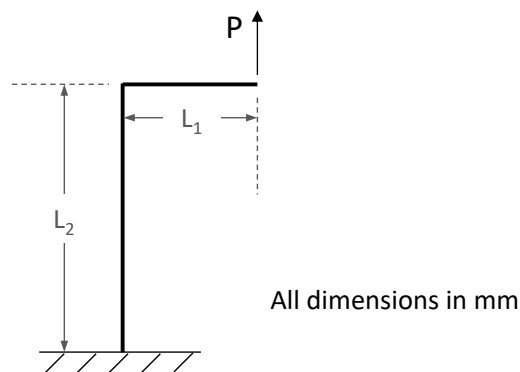

Figure Q3
- (b) The structure shown in Figure Q3 is made up of a straight horizontal section of length,  $L_1$ , of 250mm, which is free at one end and attached to a straight vertical section of length,  $L_2$ , of 500mm, which is built into the ground at the other end, as shown in Figure Q3. A vertical point load,  $P$ , of 1kN, is applied at the free tip of the horizontal section as shown in the figure. Length  $L_1$  has a symmetrical, hollow, square cross-section with outer and inner dimensions of 50mm and 20mm and length  $L_2$  has a solid square cross-section with an outer dimension of 50mm. The structure is made of aluminium with a Young's Modulus,  $E$ , of 70GPa.